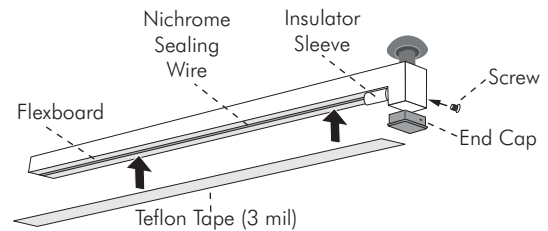

FIGURE 2
5. Apply new Teflon tape (3 mil) to flexboard over nichrome sealing wire. (See Figure 2.)
1. Locate screw and remove screw on right side of sealing arm. Remove black plastic endcap. Remove white plastic Insulator Sleeve. Locate bolt, nuts and spring (insulator assembly). Remove assembly from arm slot by pulling downwards. (A flathead screwdriver may be needed to pry loose) (See Figure 2.)